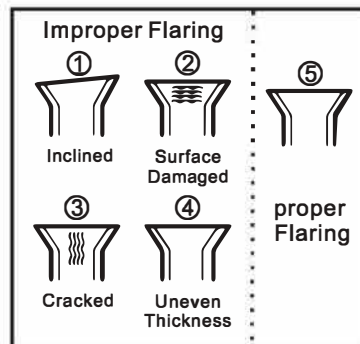

Fig. C.6.5
- 3) Flare the pipes. Insert the pipe outlet into the copper nut before flaring the pipe. Ensure that the hole is flat with sound surface and even thickness. (Fig. C.6.5)